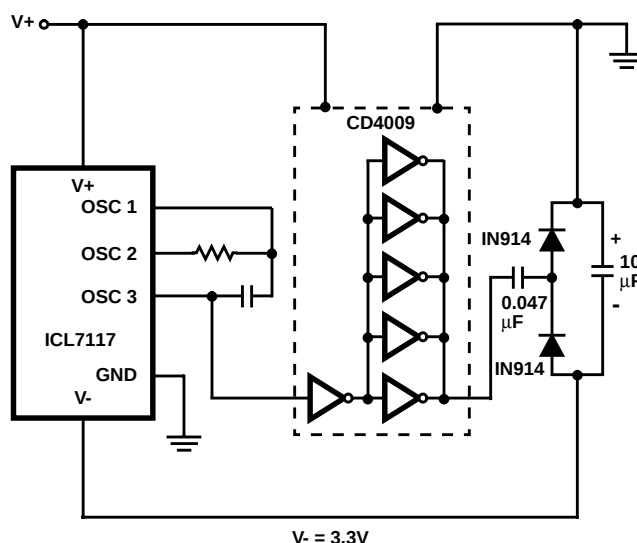

FIGURE 10. GENERATING NEGATIVE SUPPLY FROM +5V
3. The ICL7117 is designed to work from $\pm 5V$ supplies. However, if a negative supply is not available, it can be generated from the clock output with 2 diodes, 2 capacitors, and an inexpensive IC. Figure 10 shows this application. See ICL7660 data sheet for an alternative.